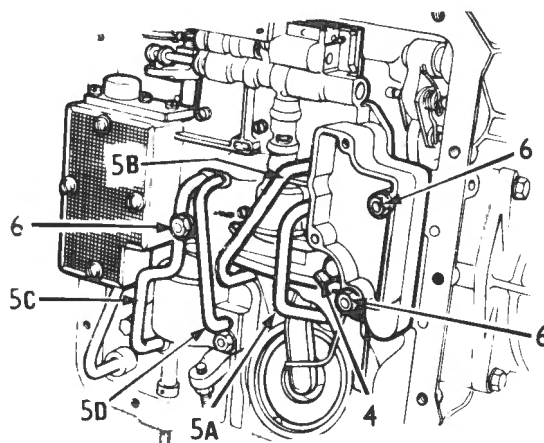

Fig. M-45
- 6 Pull out the oil connector pipes. Sequence Fig. M-45.